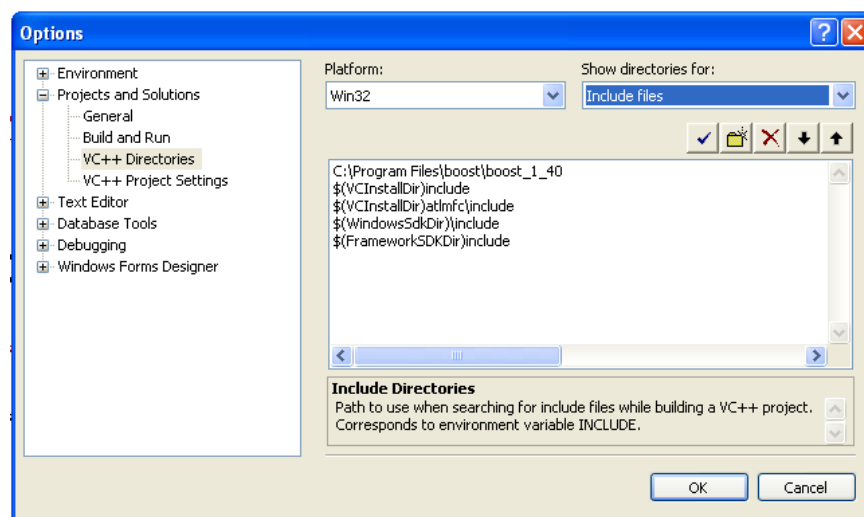

Figure 4: Visual c++ and boost integration.
- Click in the icon **New line** and enter the **BOOST_ROOT** directory in the new field, as in figure 4.